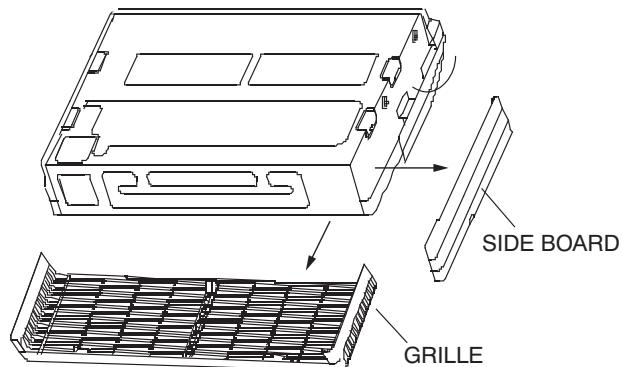

Fig. 8 —Removing Side Board and Grille
3. Remove the side board and grille from the unit as shown in Fig. 8 (does not apply to unit size 048).